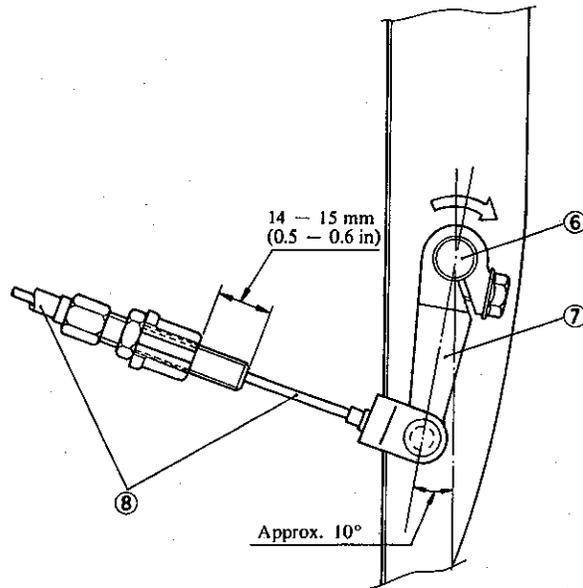

Fig. 13-11.
- Turn the clutch release pinion ⑥ fully in the direction by the arrow.
- Install the clutch release arm ⑦ and the clutch cable ⑧ as shown in Fig. 13-11.